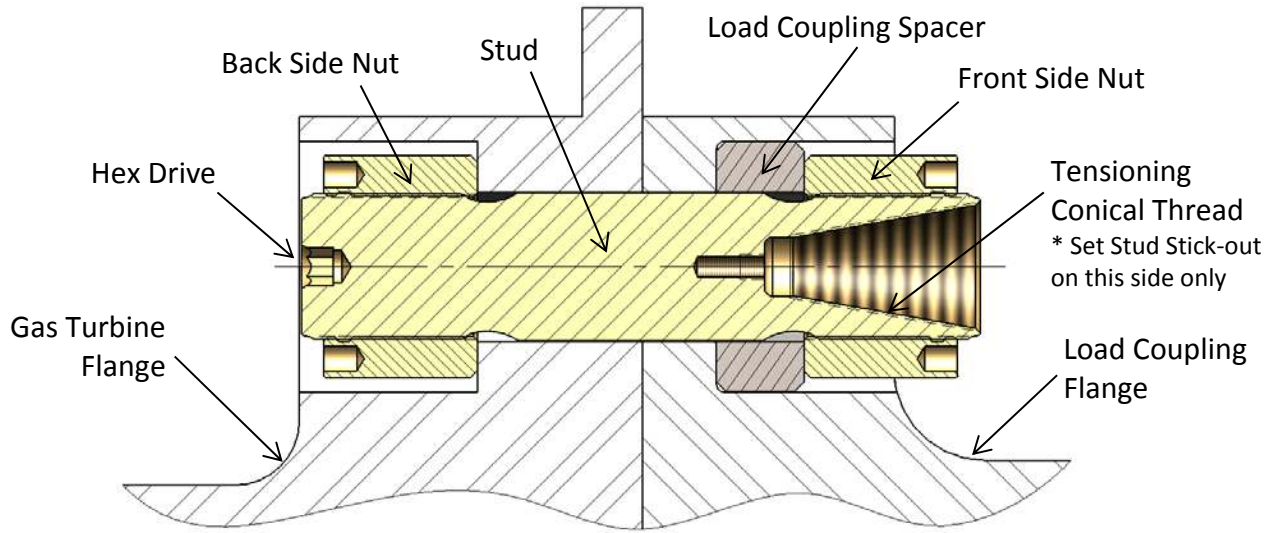

Figure 6A – Cross-section View of Gas Turbine to Load Coupling Bolted Flange Connection
5. Slide the stud, nut, and spacer into the flange as shown in Figures 6A and 6B.